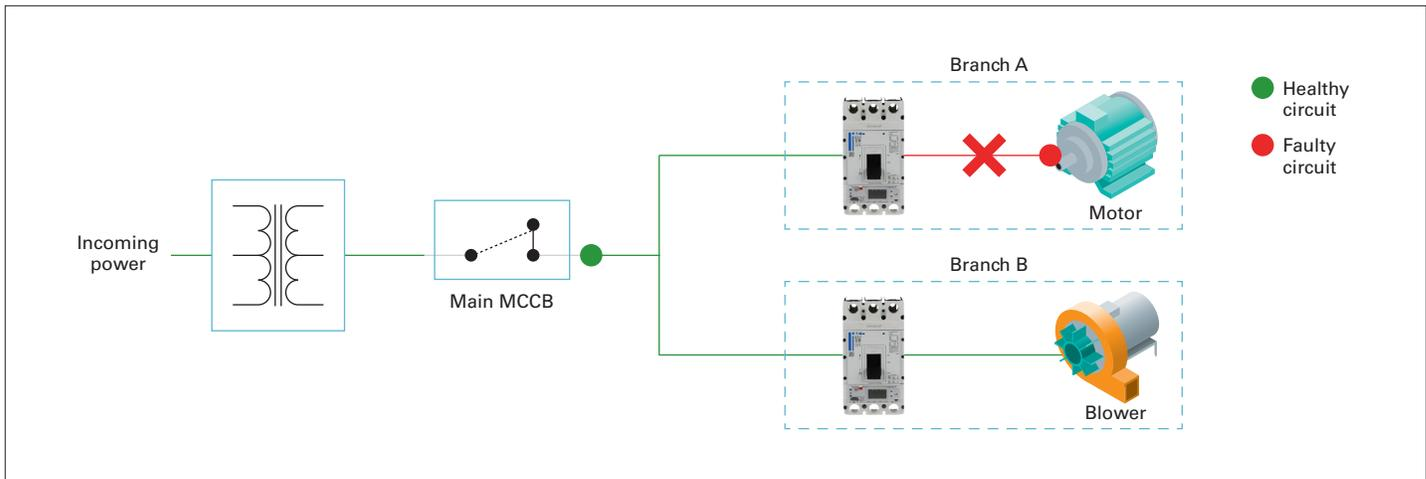

Figure 2. Electrical system with selective coordination
**Figure 2** shows an electrical system that is selectively coordinated. The fault in Branch A does not result in a shutdown to the load connected in Branch B, therefore the entire system is not interrupted.